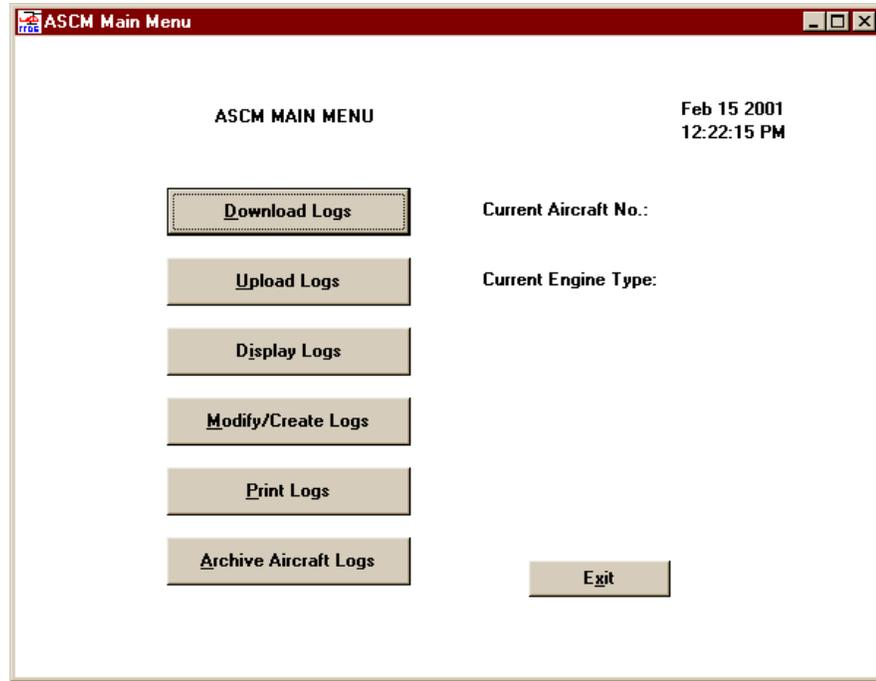

Figure 16. ASCM Main Menu Screen
3. Click on the "Download Logs" control button (refer to Figure 16).
2. Click on the "ASCM Menus" control button (refer to Figure 8) then click on the "Upload Logs" control button (refer to Figure 16).
2. Click on the "Display Logs" control button (refer to Figure 16).